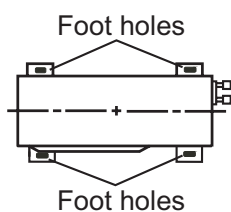

Fig. 20
- (1) Place the outdoor unit on the support.
- (2) Fix the foot holes of outdoor unit with bolts.(As show in Fig.20)